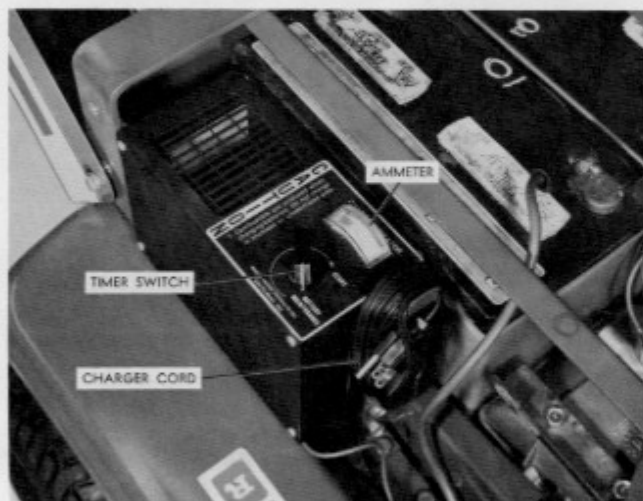

FIG. 9. Charger Control & Cord
### CHARGER (Figure 9)
### AMMETER (Figure 9)
### CHARGING THE BATTERIES (Figure 9)
2. Unwind charger cord (Figure 9) and plug it into a standard 115 volt grounded outlet.